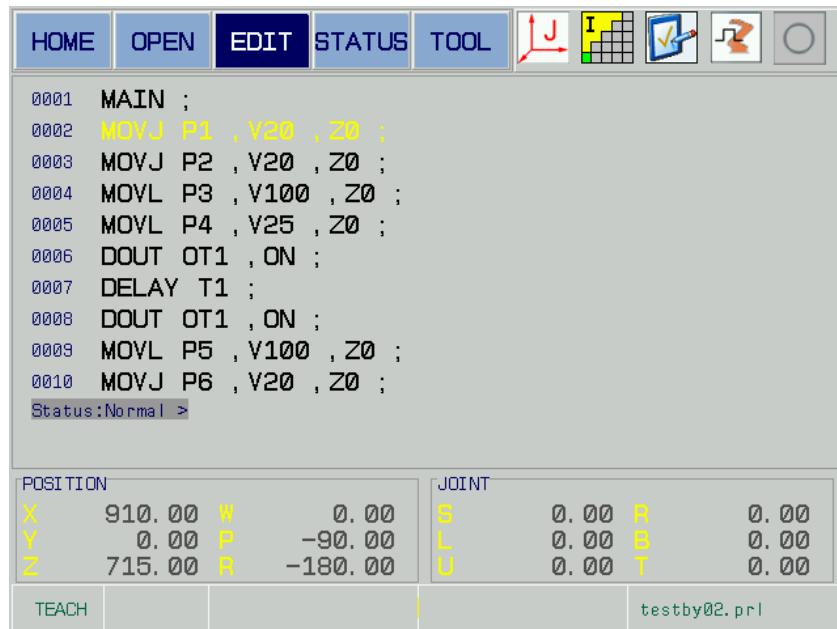

Fig. 5-35
The Fig. 5-35 is regarded as an example; it is supposed that if the MOVJ movement command at the 2nd line will be deleted, the operation steps are shown below:
1. Open the program “testby02.prl”, then enter the program display page, shift to the edit method by [F3], and then move the cursor to the 2nd line program position by up/down direction button; refer to Fig. 5-35.